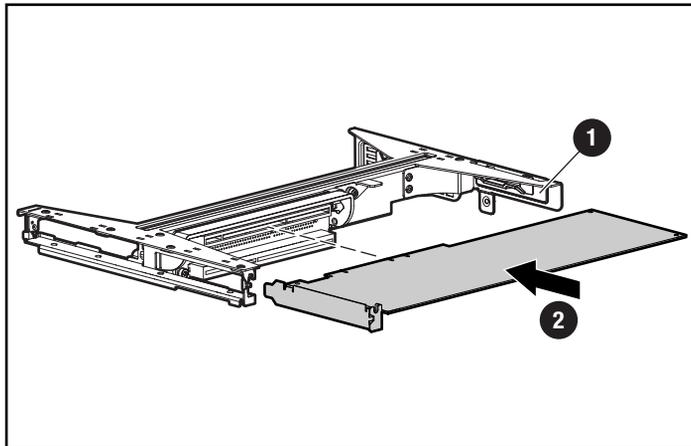

Figure 3-23. Inserting an expansion board into expansion slot 2
8. To install an expansion board into slot 2 (Figure 3-23)
- a. Align the expansion board with the expansion slot guide ❶.
- b. Slide expansion board into the slot and ensure the board seats firmly ❷.